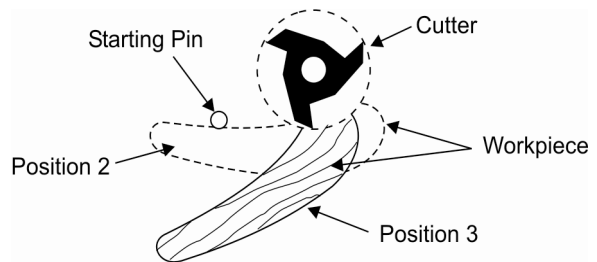

Figure 40
3. After the cut has been started, the work is swung free of the starting pin and only rides against the collar (Figure 40). Always feed against the cutterhead rotation.